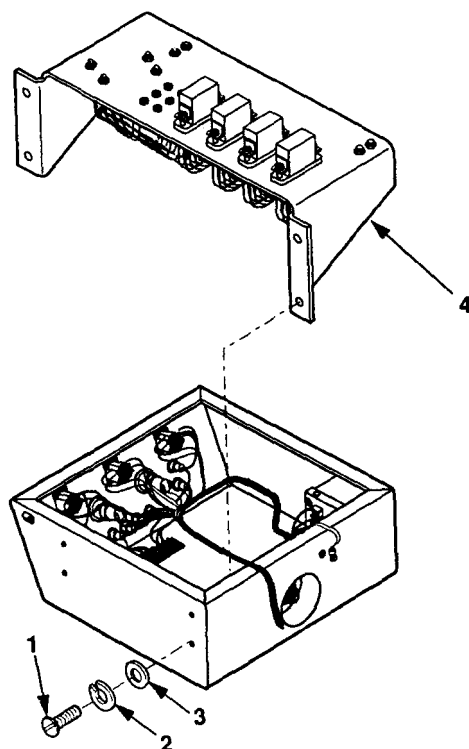

Figure 5-13. Relay Board Assembly Removal.
5. Remove four screws (1, figure 5-13), lock washers (2), and flat washers (3), and invert relay board assembly (4).
4. Position relay board (4, figure 5-13) and install four flat washers (3), lock washers (2), and screws (1).